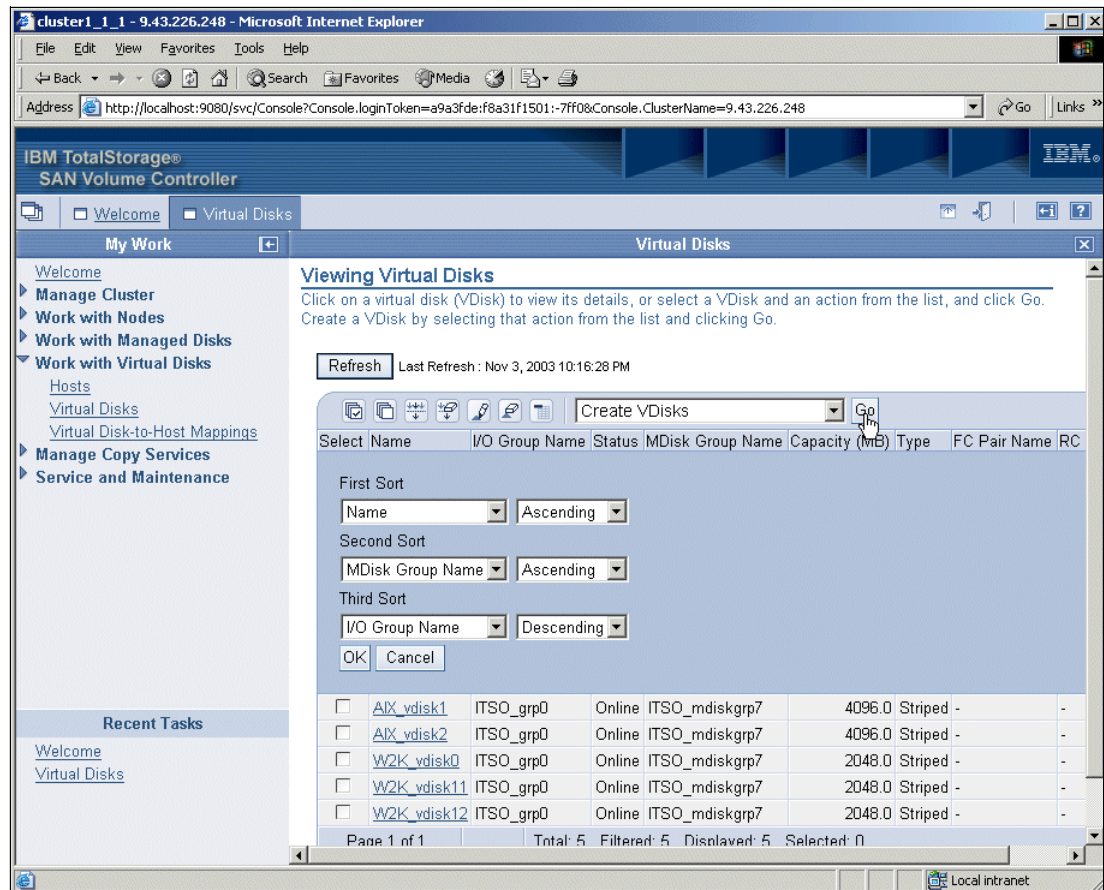

Figure 9-4 Sorting criteria
As shown in Figure 9-4, you can sort based on up to three criteria including: name, I/O group name, status, mDisk group name, capacity (MB), type, FC pair name, and RC name.